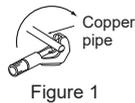

Figure 1
- 1) Cut the copper pipe correctly with pipe cutter. (Figure 1, 2)